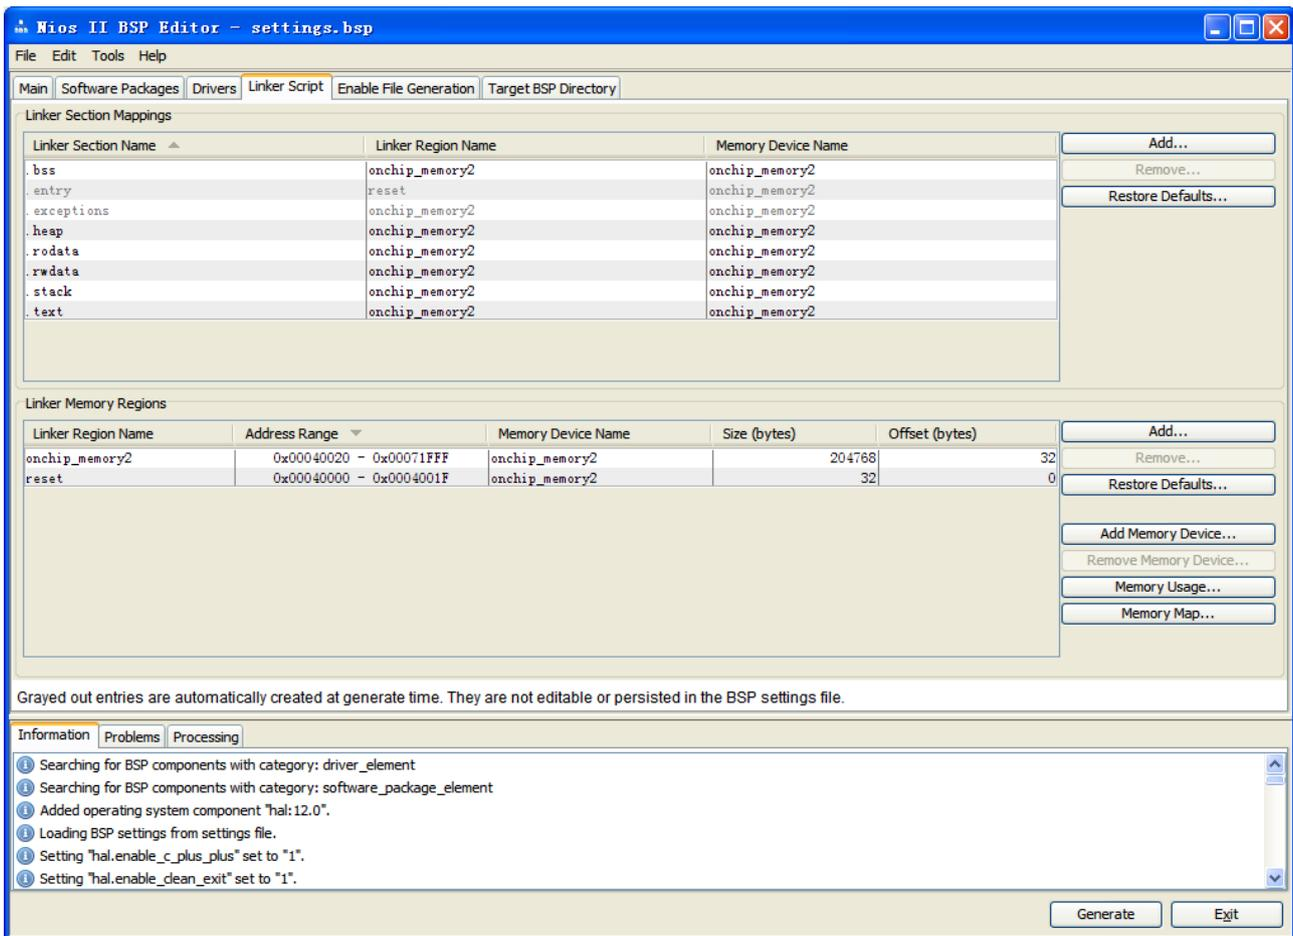

Figure 2-9 Configuring BSP
4. Choose **onchip_memory2** for all the memory options in the **Linker Script** box. See Figure 2-9 for an example.